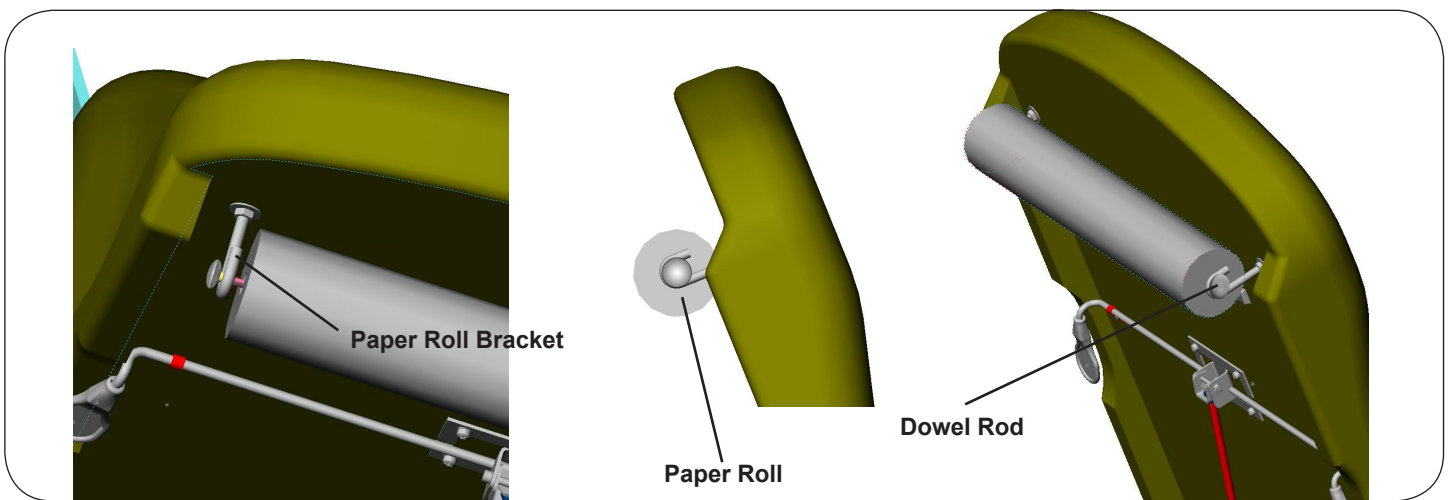

Figure 5. Paper Roll Installation
1. Slide the dowel rod through the paper roll (see Figure 5).